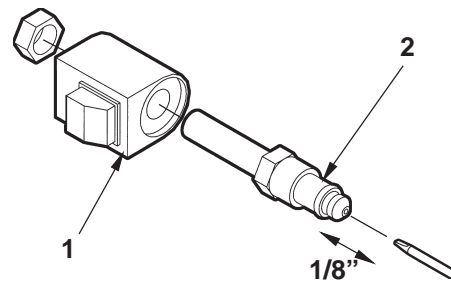

FIG. 42-2
2. Check the Valve Stem by removing the Coil Assembly (Item 1, FIG. 42-2). With platform on ground, unscrew the Valve Stem, (Item 2, FIG. 42-2) from the Pump. Push on the plunger that is located inside the Valve Stem by inserting a small screwdriver blade in the end. If the Plunger does not move freely (approximately 1/8") replace the Valve Stem. **When reinstalling valve stem, torque hex nut to 30 in-lbs.**